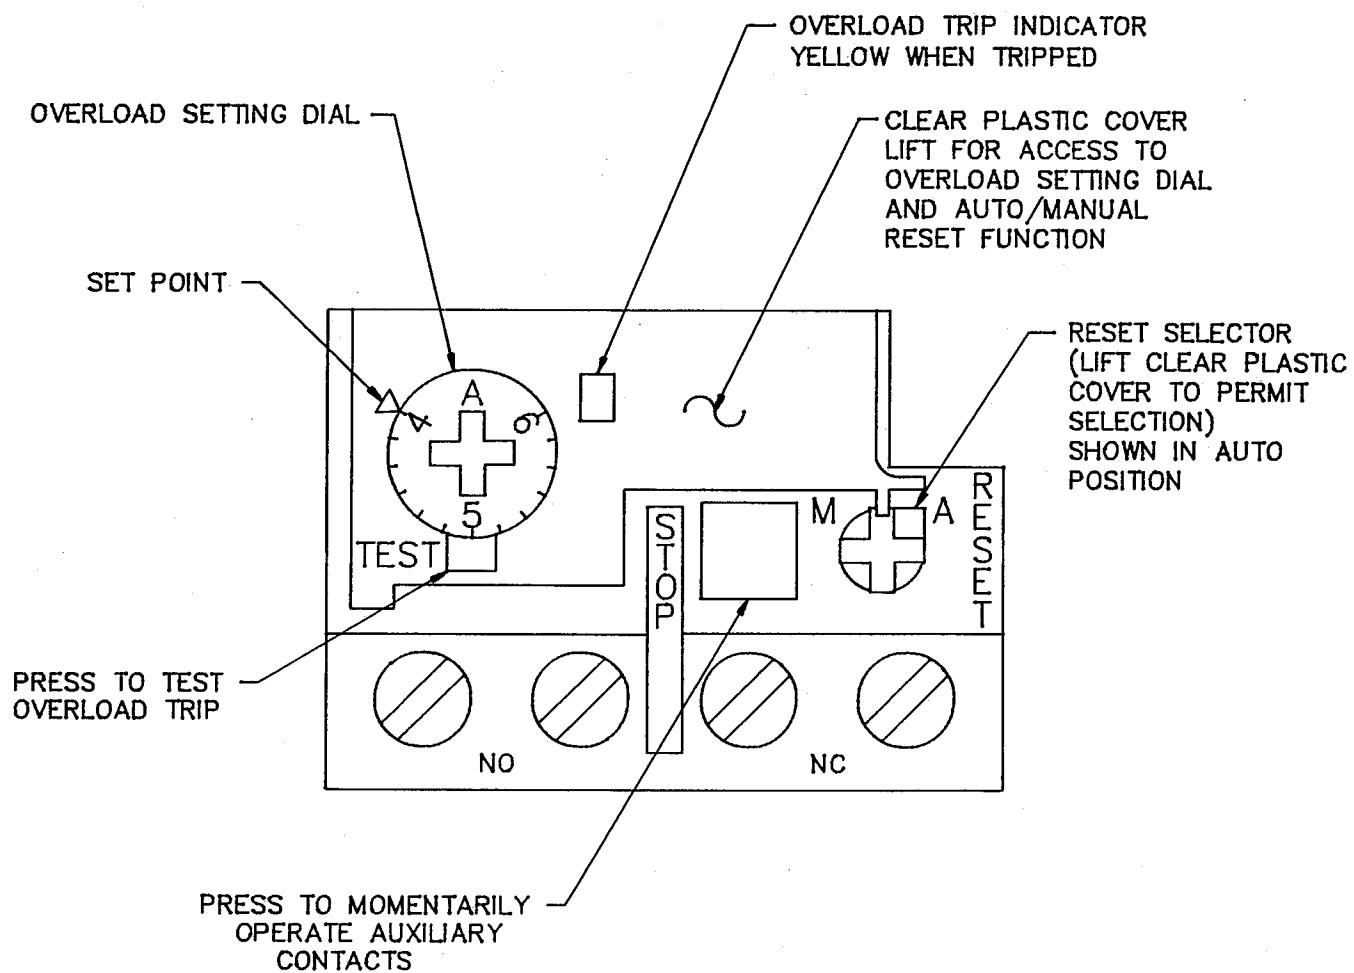

FIGURE 6-5
6.2.11 Overload relay settings and functions. See Figure 6-5.